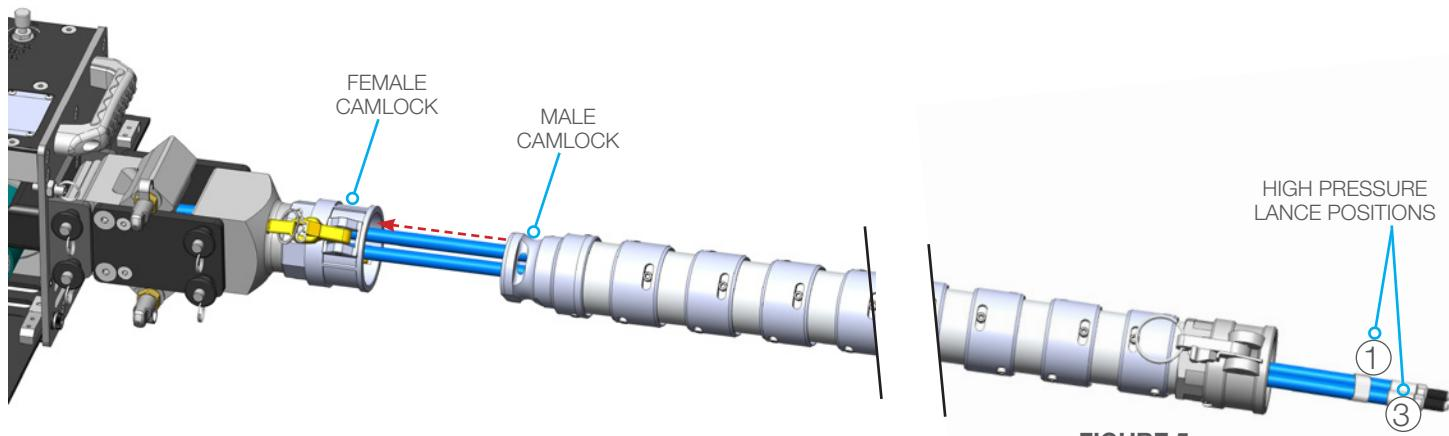

FIGURE 5
- Feed the lances all the way through the Snout and lock the Male Camlock end of the Snout into the Female End of the Adapter. If the marked lance comes out in a different position, pull the lances out of the Snout, untwist, and reload them. (**Figure 5**)